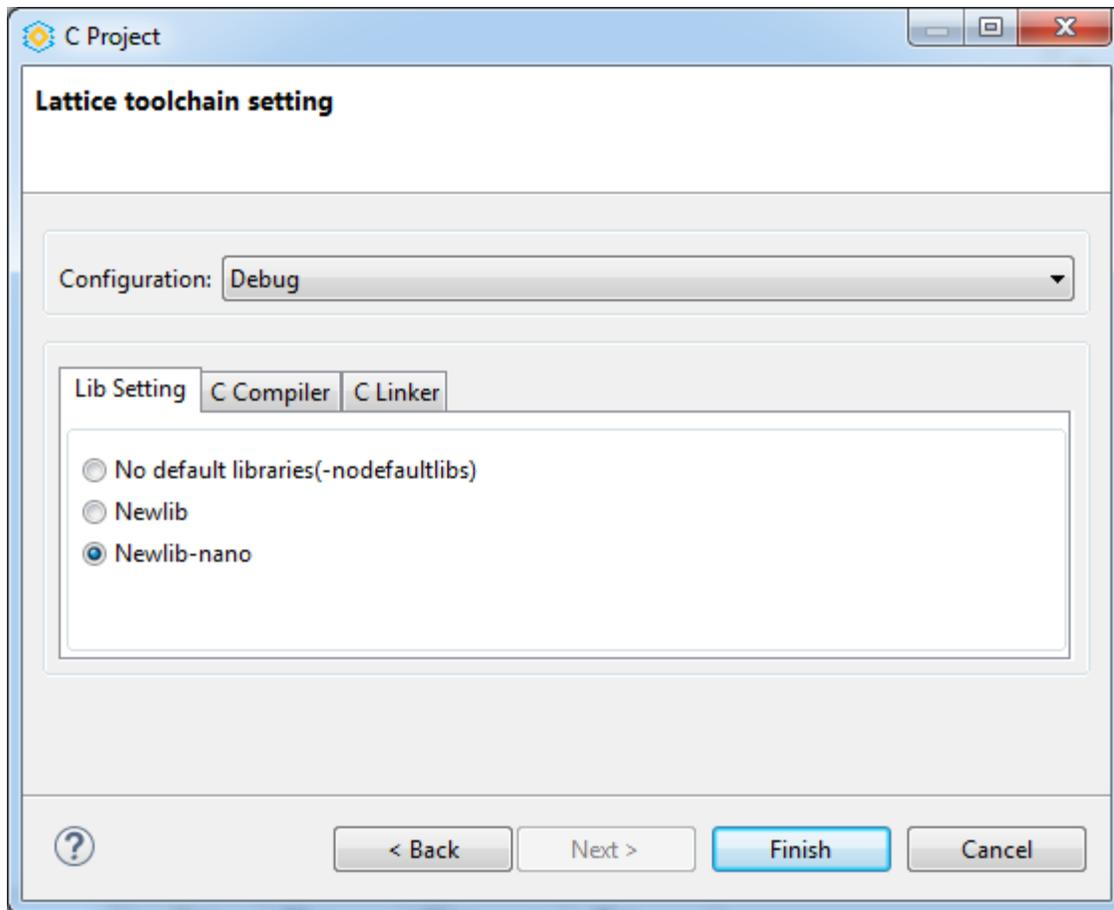

Figure 2.50. Lattice Toolchain Setting Dialog
4. Enter a project name in the “**Project Name**” field, such as HelloWorld_C. Click **Next**. The Lattice toolchain setting dialog opens (Figure 2.50).